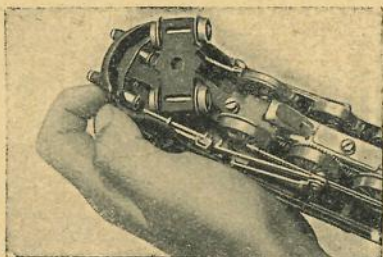

Fig. 4
3) Sodann von der Stirnseite der Lokomotive, von außen her, die auszuwechselnde Glühlampe mit der Fingerspitze fest hineindrücken, bis sie in das Gehäuse fällt (Fig. 4).
- 3° Repousser l'ampoule de dehors avec le bout de l'index, jusqu'à ce qu'elle vienne tomber dans la caisse du châssis (Fig. 4).
- (3) Push the bulb inward with the tip of the forefinger until it drops into the housing of the locomotive (Fig. 4).
- (4) Turn the locomotive right side up and shake out the bulb into the hollow of the other hand.
- (5) Insert the new bulb with the tip of the forefinger or by means of a forceps, taking care to see that the spot of solder on the cap of the bulb enters the corresponding recess in the socket.
- (6) Push the spring back to its proper position and make sure that it bears tightly against the cap of the bulb.